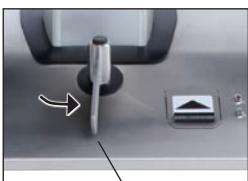

Fig. 7
- Push the lever forward (❹, fig. 7) to retract the chassis.
Lever position (fig. 7 + 8):